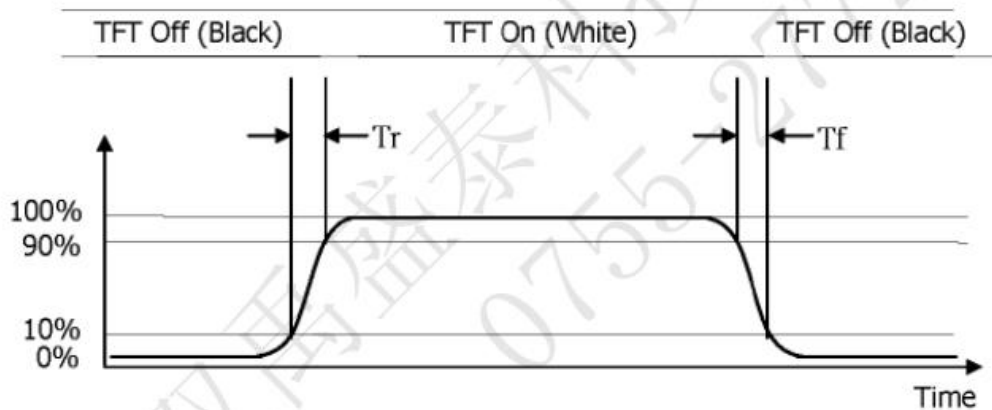

Figure1 Response Time Testing
2. Contrast measurements shall be made at viewing angle of $\theta = 0^\circ$ and at the center of the LCD surface. Luminance shall be measured with all pixels in the view field set first to white, then to the dark (black) state. (See FIGURE 1 shown in Appendix) Luminance Contrast Ratio (CR) is defined mathematically.
5. The electro-optical response time measurements shall be made as **FIGURE 1** shown in Appendix. The times needed for the luminance to change from 10% to 90% is T_r , and 90% to 10% is T_f .